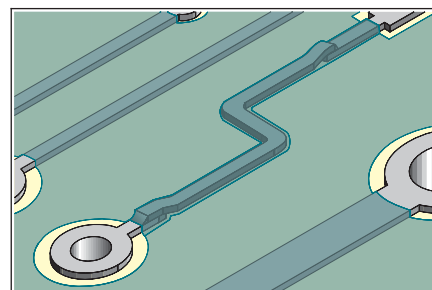

Figure 6 Coat the top and sides of the foil jumper with epoxy.
18. Coat the top and sides of the foil jumper with epoxy. The epoxy bonds the foil jumper to the printed circuit board surface and insulates it. A wooden stick sharpened at one end may be used to apply and spread the epoxy. (See Figure 6.)